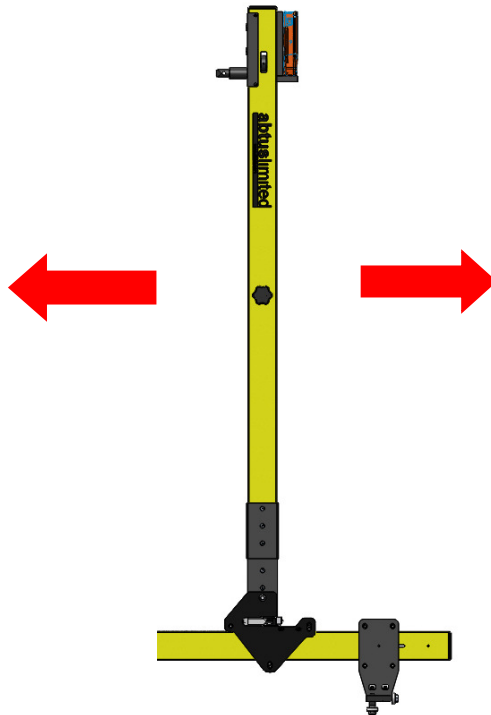

Figure 7
3. The vertical beam can be moved from side to side by turning the stagger adjustment wheel located in the centre of the vertical beam (shown in figure 7). When the overhead cable is in line with the laser the amount of cable stagger can be read from the scale on the upper side of the horizontal beam.